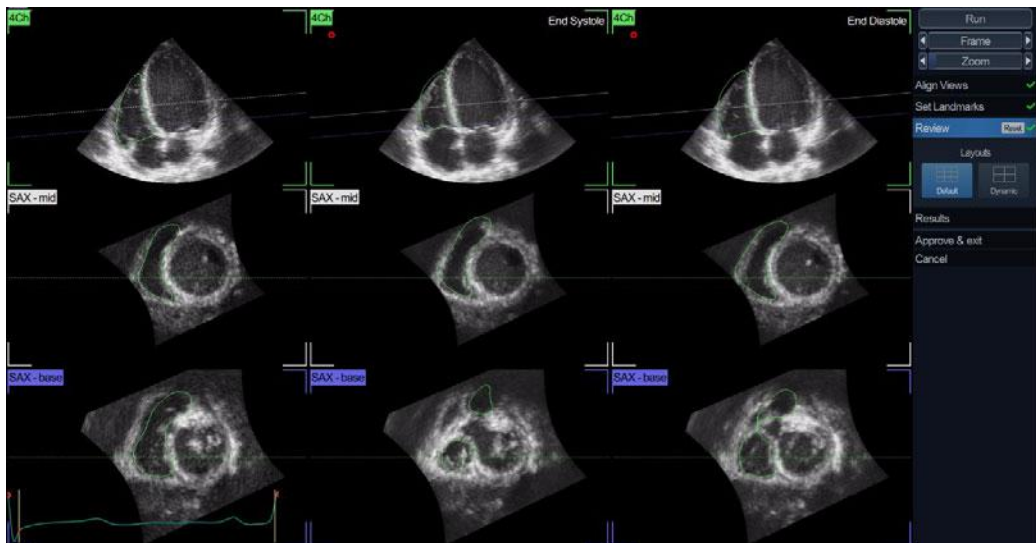

Figure 8-55. The Review stage.
The default screen displays nine (9) slices on the 3D data in a 3x3 grid (Figure 8-55):
- First row shows 4-chambers view playing (1st column), at End Diastole (ED) (2nd column) and at End Systole (ES) (3rd column).